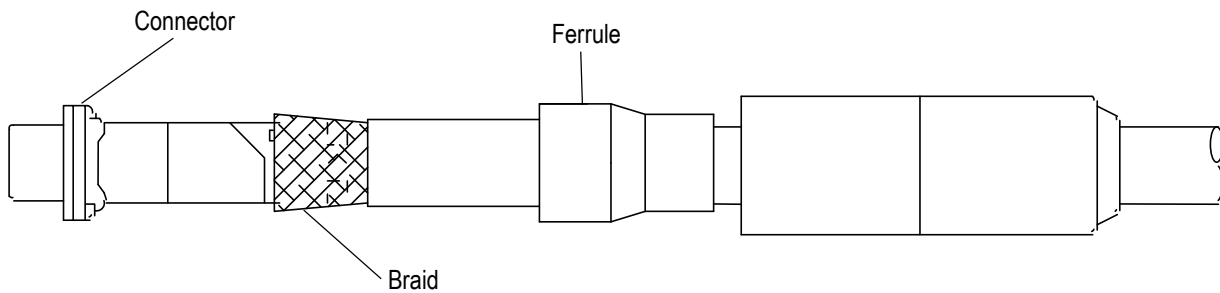

Figure 10
4. Fold the braid forward over the cable outlet as shown in Figure 10.